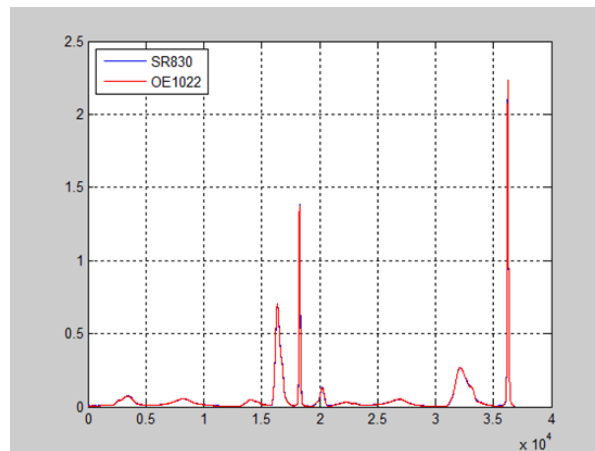

Fig.101 Contrast Spectrum Curve between SR830 and OE1022D
The actual connect figure is shown in Fig.101.
5. Use the SR830 instead of the OE1022D to measure. Repeat the steps above to run the same experiment. Then you will get another spectral curve as shown in Fig.101. You can see that these two curves measured by OE1022D and SR830 are almost the same.